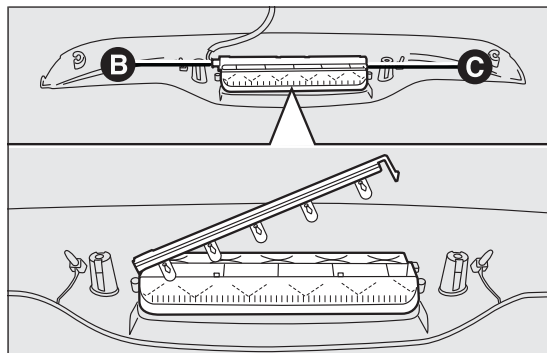

fig. 120
- ☐ disconnect the electrical connector B fig. 120;
- ☐ press the retaining device C fig. 120 and open the bulb holder;